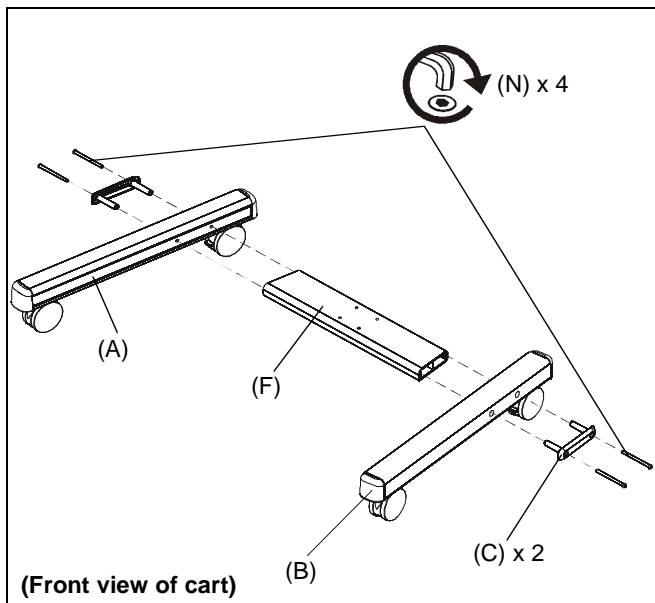

Figure 1
1. Assemble two legs (A) and (B) to the cart cross bracket (F) using two 5/16-18 x 4-1/4" button head cap screws (N) through one end cap (C) per leg. (See Figure 1)